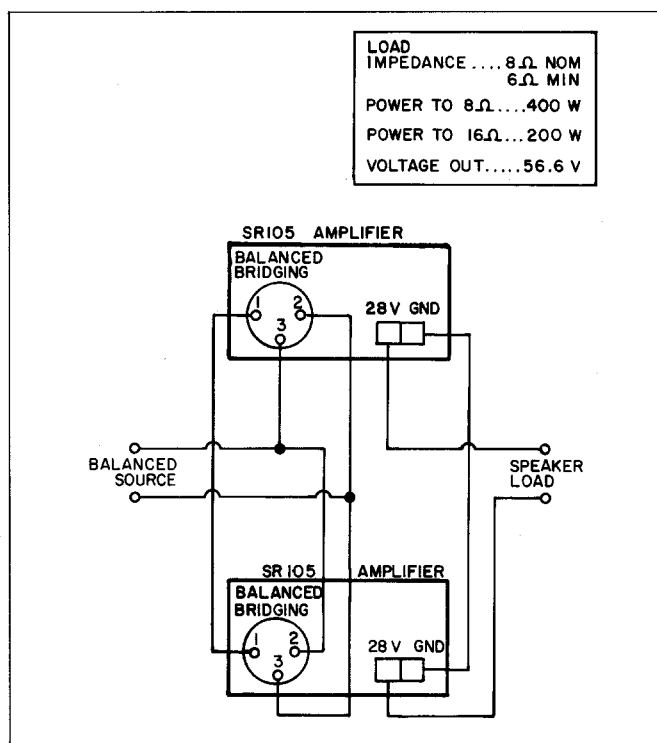

FIGURE 11. BRIDGED AMPLIFIER CONNECTIONS
Connect the Amplifier balanced inputs out of phase as shown in Figure 11, Page 11, with the speaker load connected between the two 28V terminals of the DIRECT OUTPUT Terminal Strips (9). Connect the two GND terminals together.